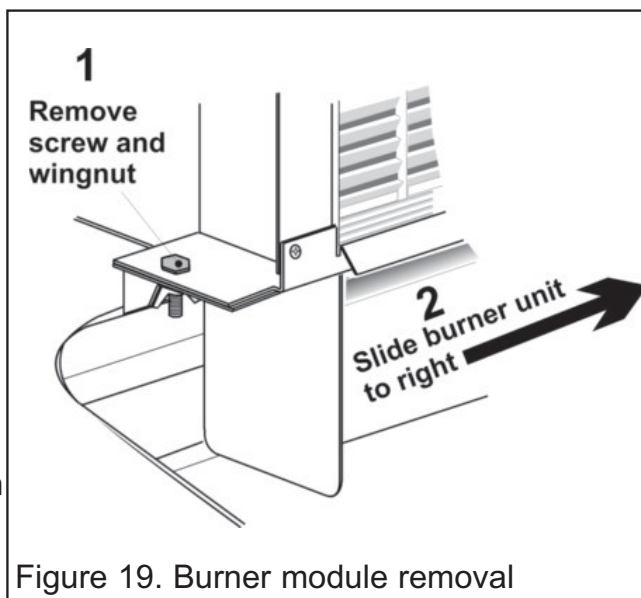

Figure 19. Burner module removal
4. Detach the left end of the burner module from the radiant box by removing one screw and a wingnut (See figure 19).
5. Carefully slide the burner module to the right to free it from the right side of the radiant box (See figure 19).